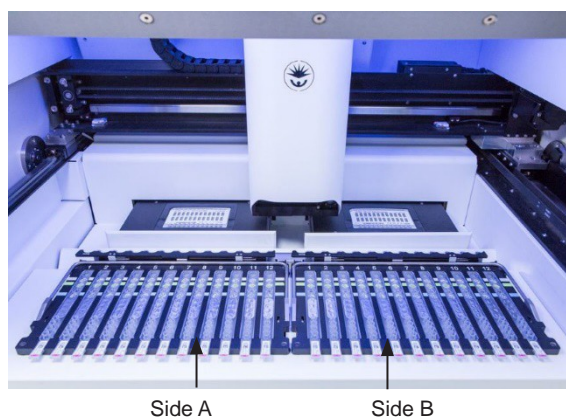

Figure 3: Load Rack(s) onto the BD MAX System
15. Load rack(s) onto the BD MAX System (refer to Figure 3).